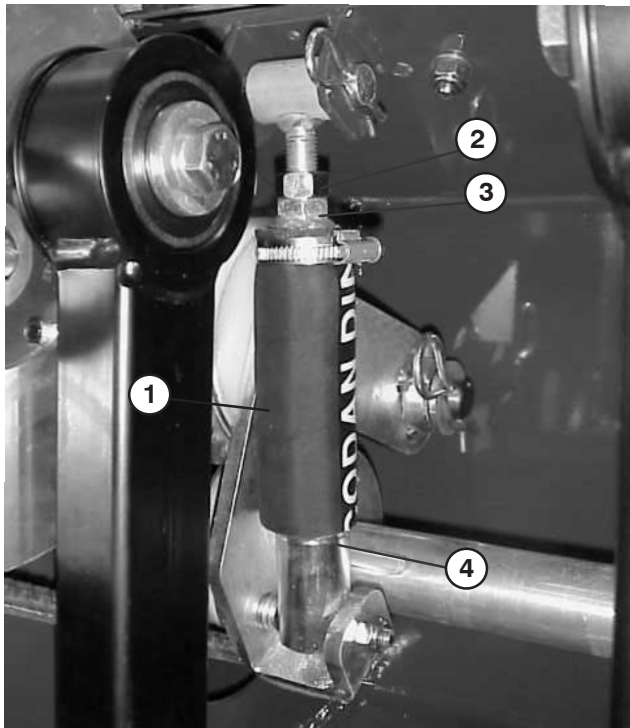

Figure 31
- A. Loosen jam nut securing idler tube to tensioner arm (Fig. 31).